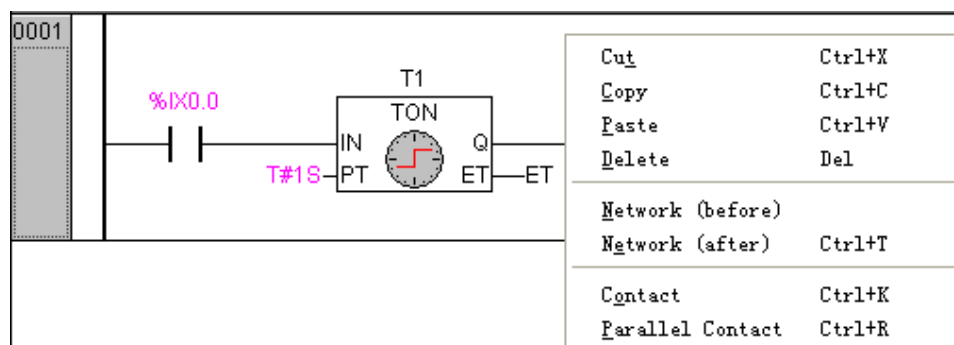

Figure 3-6-9 Programming Step (9)
- As shown in figure 3-6-9, right click on the workspace, then select “Network (after)” to start programming in network 0002.